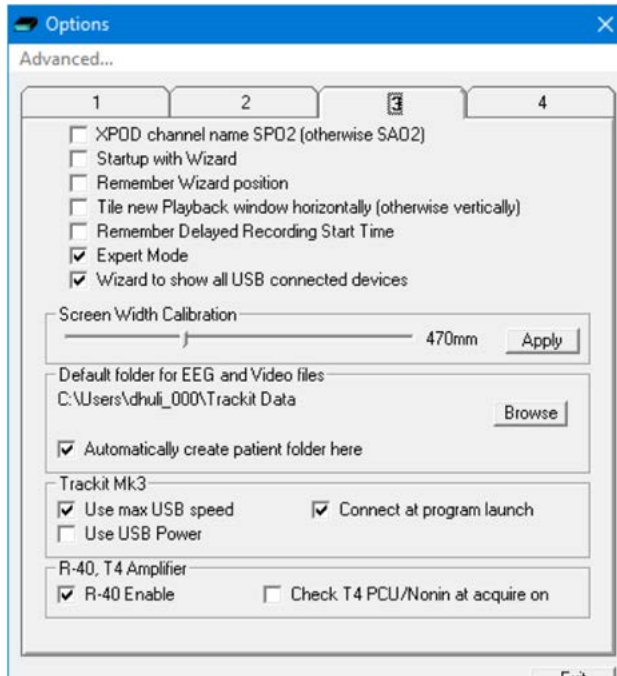

Figure 11: Options Tab 3
1. Open the Trackit Connect dialog box (Figure 11) by clicking on the Connect icon in the Home toolbar (Figure 4) or the Connect button in the Control Panel (Figure 27).